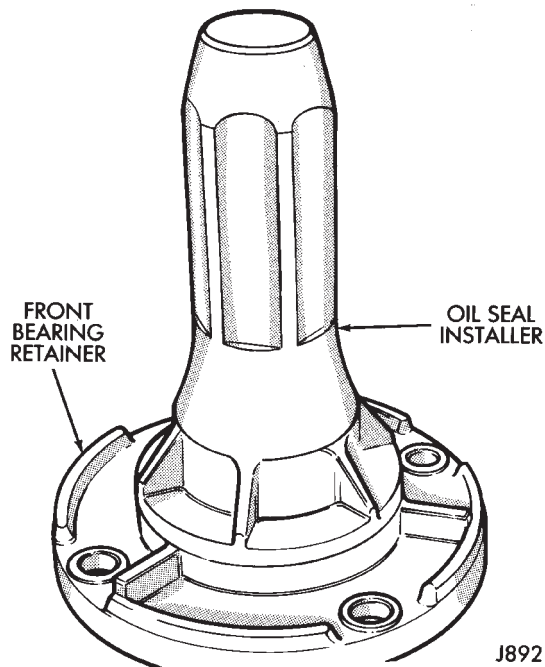

Fig. 43 Installing Input Bearing Retainer Oil Seal
(6) Install new oil seal in input bearing retainer with suitable size installer tool (Fig. 43).
(7) Apply 3 mm (1/8 in.) wide bead of Mopar Gas-